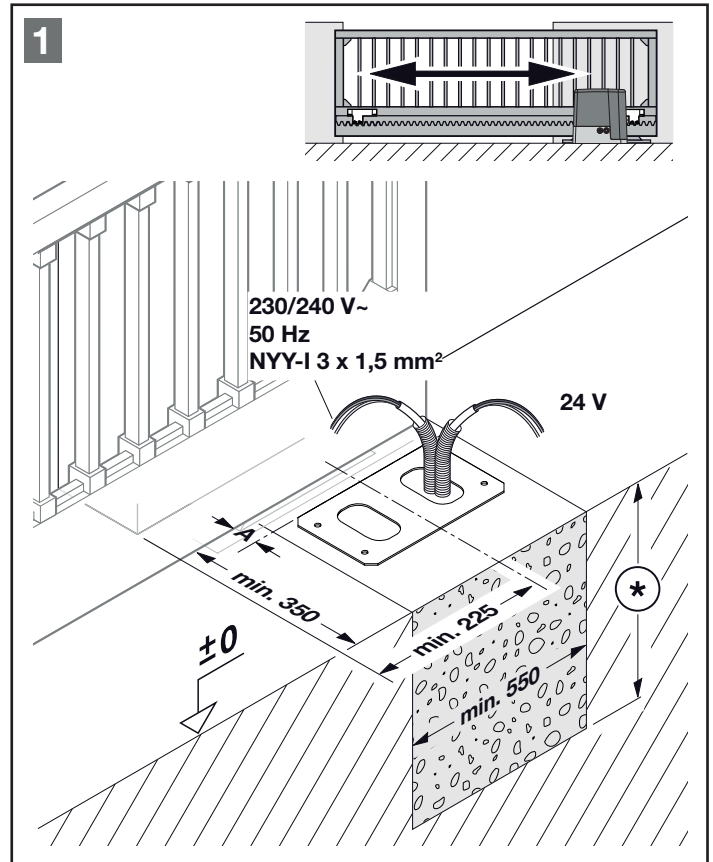
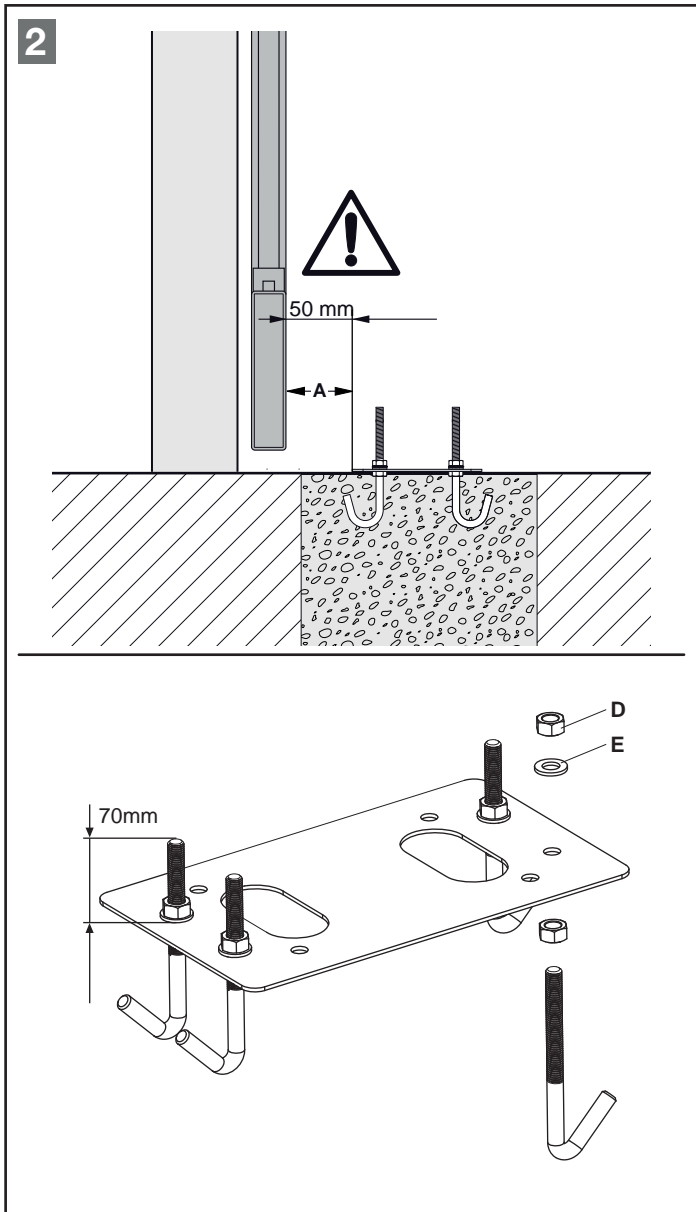

Figure 1 - Foundation
Figure 2 - Ground anchor
- A foundation must be cast for the sliding opener, as shown in Figure 1. The marking ⊛ indicates the frost-free depth (in Germany = 80 cm).
Always observe the installation dimensions! See "Figure 1 - Foundation" and "Figure 2 - Ground anchor".
Before drilling the four holes, their position must be marked on the surface of the foundation. Use the motor base plate as a drilling pattern. Always observe the installation dimensions! See “Figure 1 - Foundation” and “Figure 2 - Ground anchor”. Then drill plug holes, clean the holes and fix the base plate with suitable installation materials. Ensure to tighten the nut and washer to the ground.